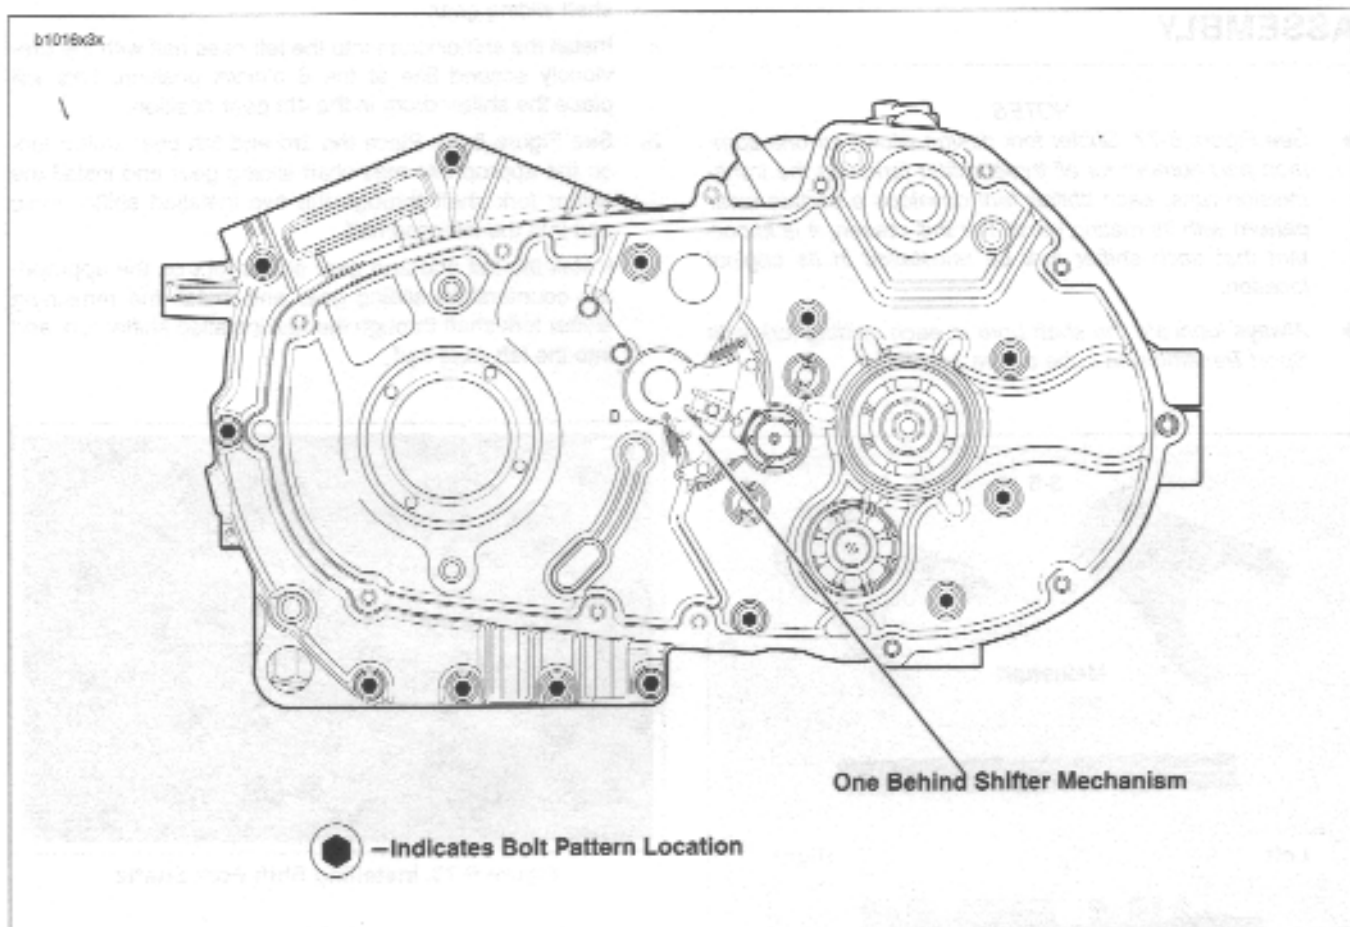

Figure 6-79. Crankcase Fasteners
- c. See Figure 6-79. Tighten 5/16-in. fasteners to 15-19 ft-lbs (20.3-25 Nm).